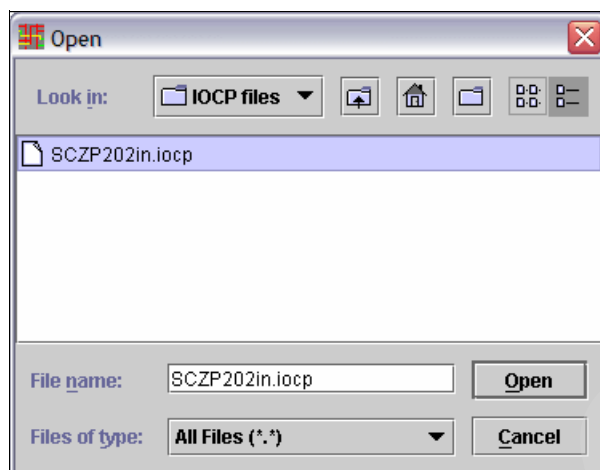

Figure 4-53 CMT - Import IOCP files
1. Import the IOCP file by clicking **Tool** → **Import IOCP File** (Figure 4-53).